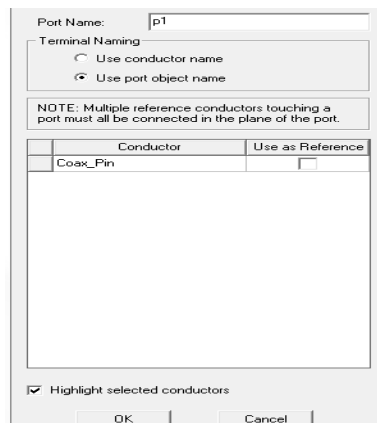

Figure 27. Reference Conductors for Terminals
- 8 Edit the fields as shown in Figure 27 and click **OK**.